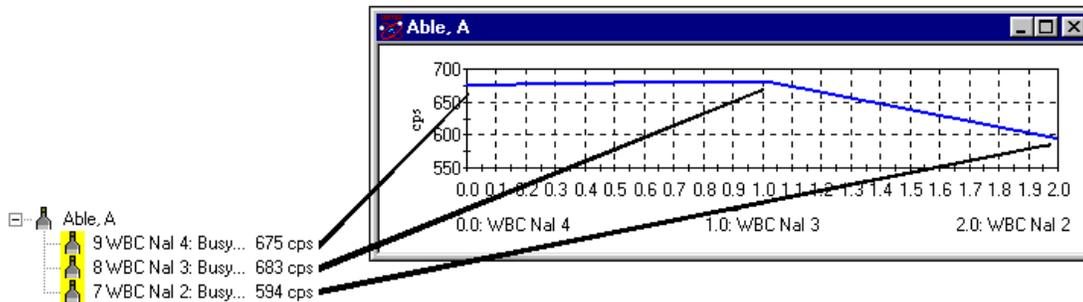

Figure 26. Summed Spectrum and MCS Windows for Multi-Detector Groups. Note the “At-a-Glance” Display of Input Count Rates for the Detectors in the Group.
If you are summing spectra from a multi-detector counting station, a summed spectrum window and multichannel scaler window open during the count (see Fig. 26). These look different than the individual spectrum windows discussed in items 7 and 8. The MCS window gives you an “at-a-glance” display of the input count rates for all detectors in the group. Note that the MCS window’s x-axis legend names each detector in the group (which are assigned to position 0.0, 1.0, 2.0, etc.).